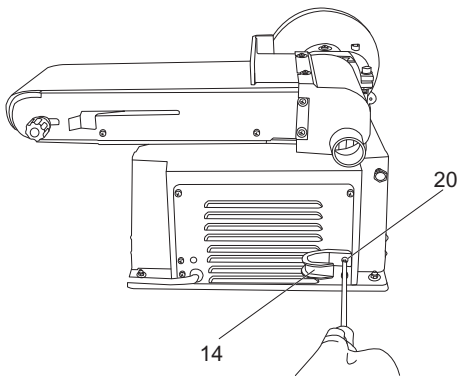

Fig. 7
> Mount the two cord wraps (14) with two fixing screws (20) and flat washers, then tighten the two fixing screws with a phillips screwdriver. (Fig. 7 & 8)